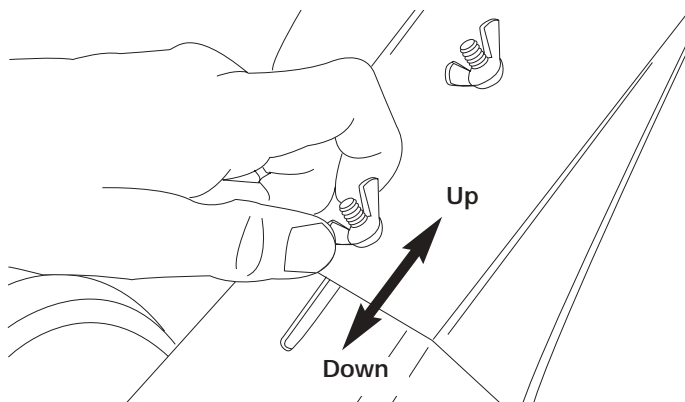

Figure 19
2. Loosen (do not remove) the two wing nuts on the tine guard. See Figure 19.